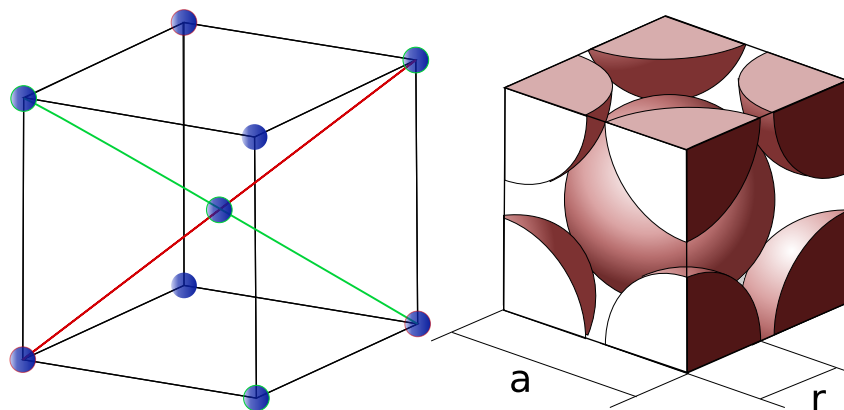

Figure 1.1: The BCC structure.
19) The body-centered cubic (BCC) crystal structure is shown below in Fig. 1.1 Demonstrate the following: